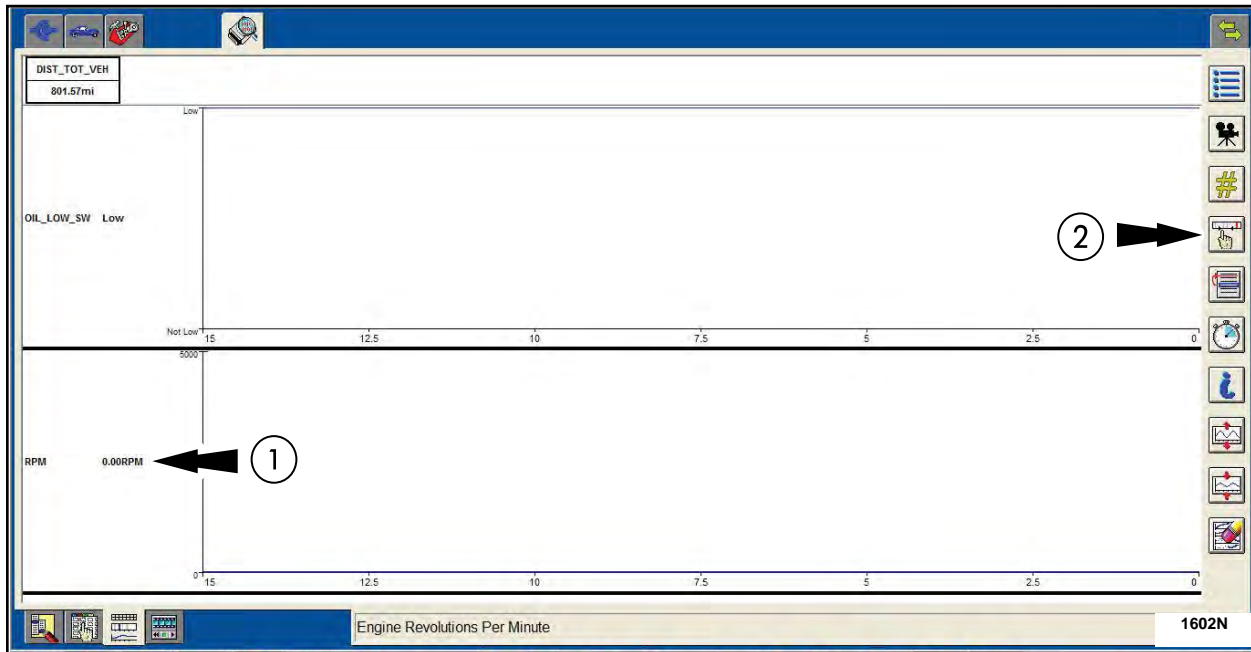

FIGURE 7
6. On the graph screen, select the RPM PID and then click the plot format button. See Figure 7.